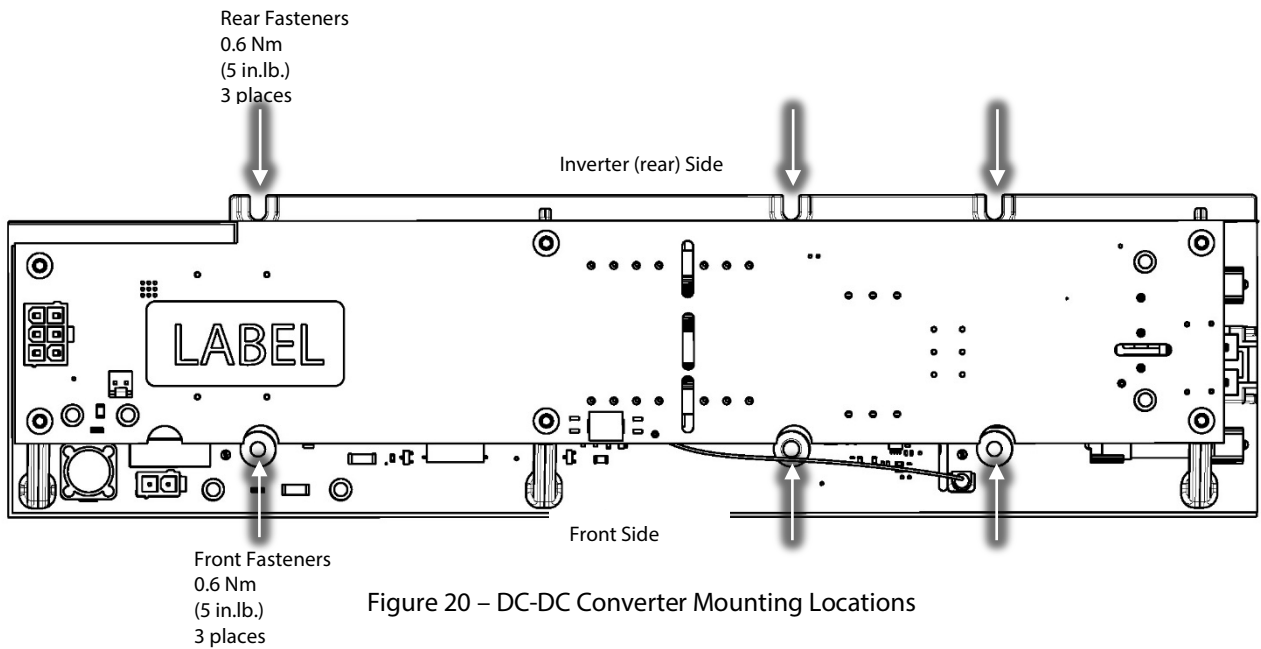

Figure 20 – DC-DC Converter Mounting Locations
3. Install the new front fasteners that secure the DC-DC Converter to the Inverter Heat Sink Plate. Torque all fasteners to 0.5 Nm (4 in.lb.). Refer to Figure 20 (DC-DC Converter Mounting Locations).